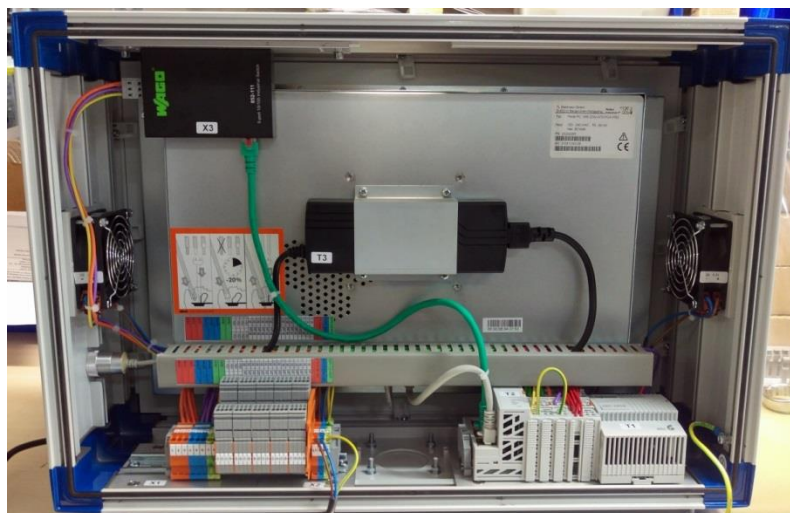

Figure 5: Rear view into the equipped Industrial Touch-Panel PC
- Power supply 100 – 240VAC, to power the PC module, see Figure 5 (T3)
- Industrial Power Supply (24VDC, 2.5A, e.g. WAGO 787-1012), to power integrated Digital-Output modules and network switch, see Figure 5 (T1)
- Industrial Fieldbus coupler (e.g. WAGO 750-352), see Figure 5 (T2)
- Industrial Terminal block, labeled for signal connection, see Figure 5 (X1, X2)
- Industrial 5-channel network switch (e.g. WAGO 852-111), see Figure 5 (X3)